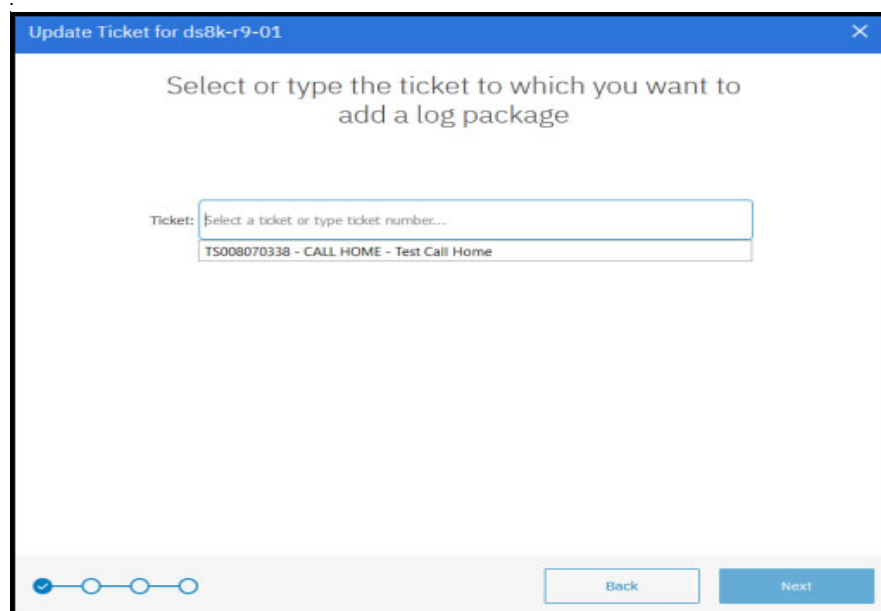

Figure 12-27 IBM Storage Insights: Ticket number
3. In the window that is shown in Figure 12-27, you can either select one of the open tickets for this machine or type in the ticket number manually.